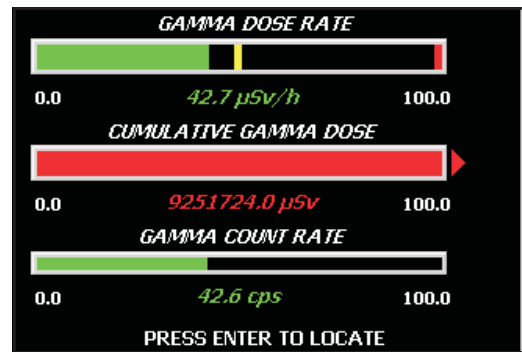

Figure 13 Composite Dose Display
- Composite – Displays the Gamma Dose Rate, the Cumulative Gamma Dose and the Gamma Count Rate as bargraphs (Figure 13).